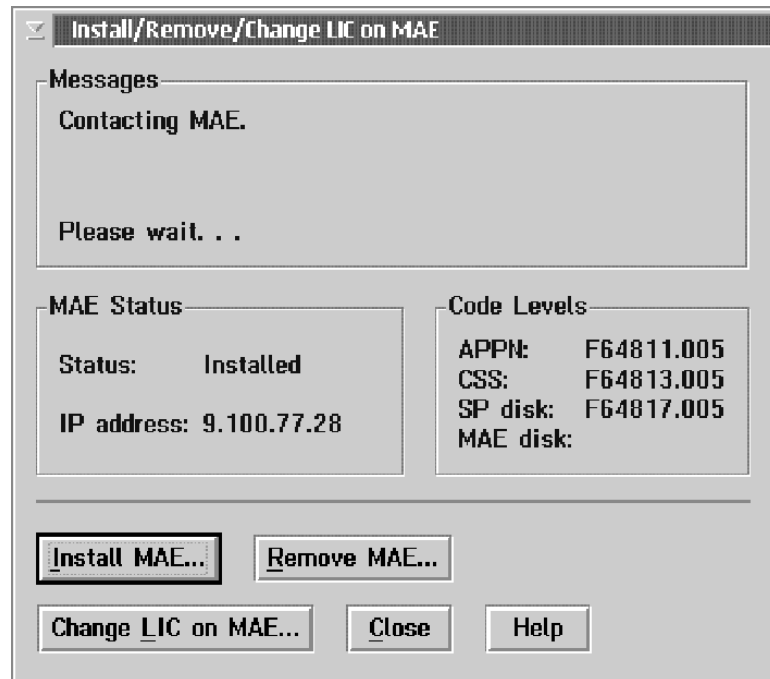

Figure 5. Changing MAE LIC Installation Window
- ___ 12. From the **Multiaccess Enclosure (MAE) Management** folder, select the **Install/Remove/Change LIC on MAE** function, in order to replace the MAE LIC on the MAE hard disk with the MAE LIC stored on the service processor hard disk. The following window is displayed (Figure 5 on page 37).